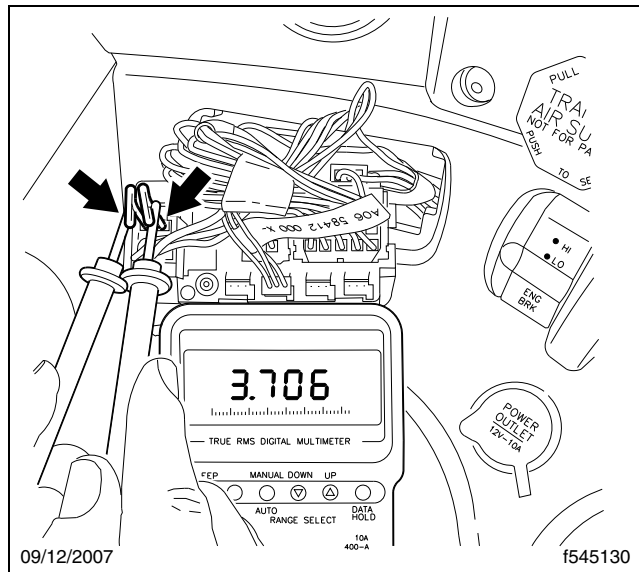

Fig. 6, Measuring Voltage Between Terminals 6 and 12
- 1.7 Measure the voltage between terminals 6 and 12. See **Fig. 6**.